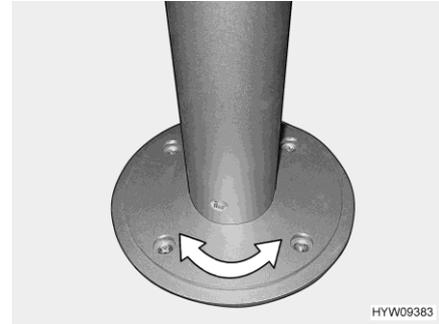

Fig. 57 Pillar table leg (rotatable)
- Rotate table top to the desired position. In order to do this, you need a little effort, because the table top rotates against the friction resistance on the pillar table leg (Fig. 57).